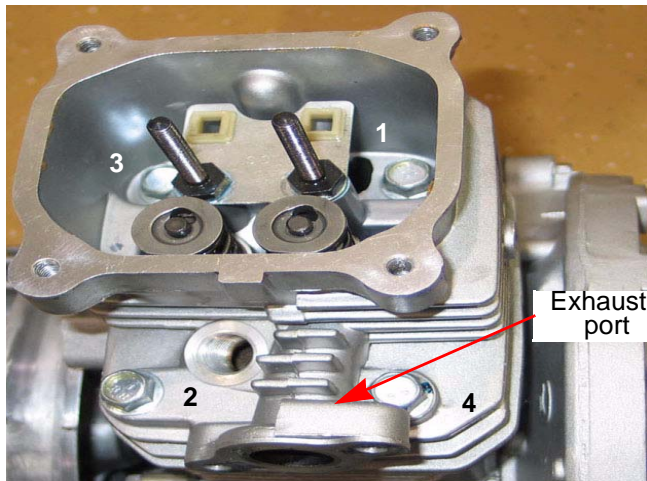

Figure 9.7
15. Install the 4 head bolts, and tighten them to a step torque of 212 in-lb. (24 Nm) in an alternating diagonal pattern. See Figure 9.7.